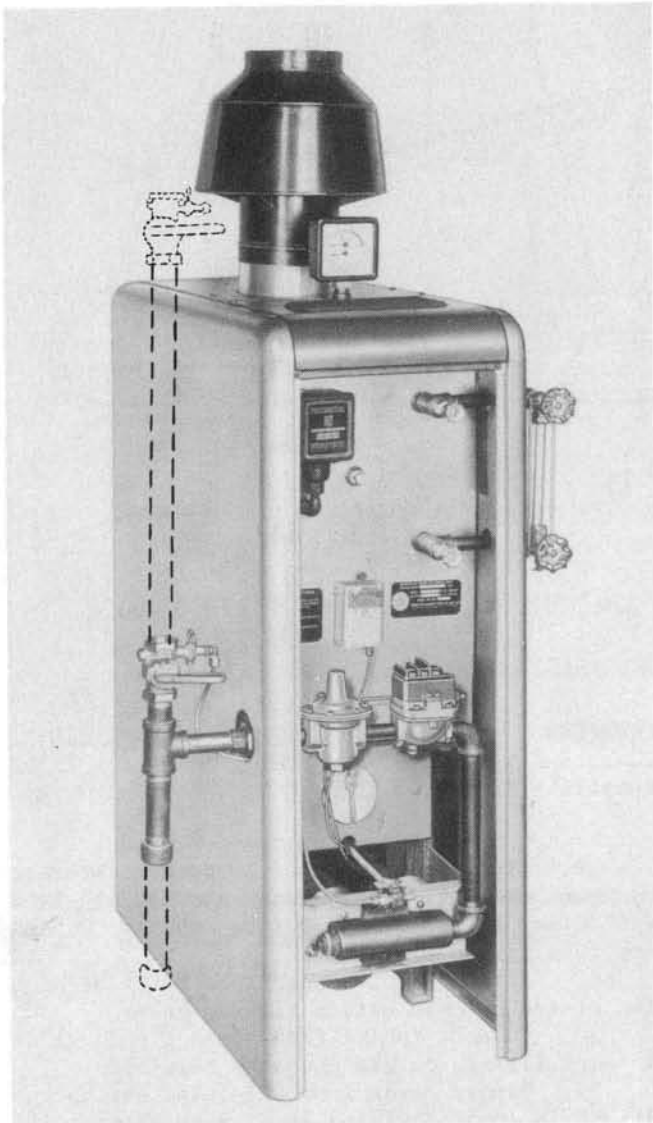

Figure 8. Controls Installed
21. Remove cover from Pilotstat switch and attach to front division panel with sheet metal screws. Then connect thermocouple lead to bottom of Pilotstat switch (see Figure 8). Remember that this is an electrical connection and a dirty or loose connection will prevent operation. Do not bend thermocouple lead within 1/2" of brazed joint at connector end.
22. Assemble manual shutoff valve and pilot valve assembly to piping forming a drip leg as shown in figure 8. This drip leg catches dirt and moisture and must be furnished by installer as it is not furnished with boiler.
26. Assemble compression fitting to shut-off valve and fasten to piping to form a drip leg as shown in figure 8. This drip leg must